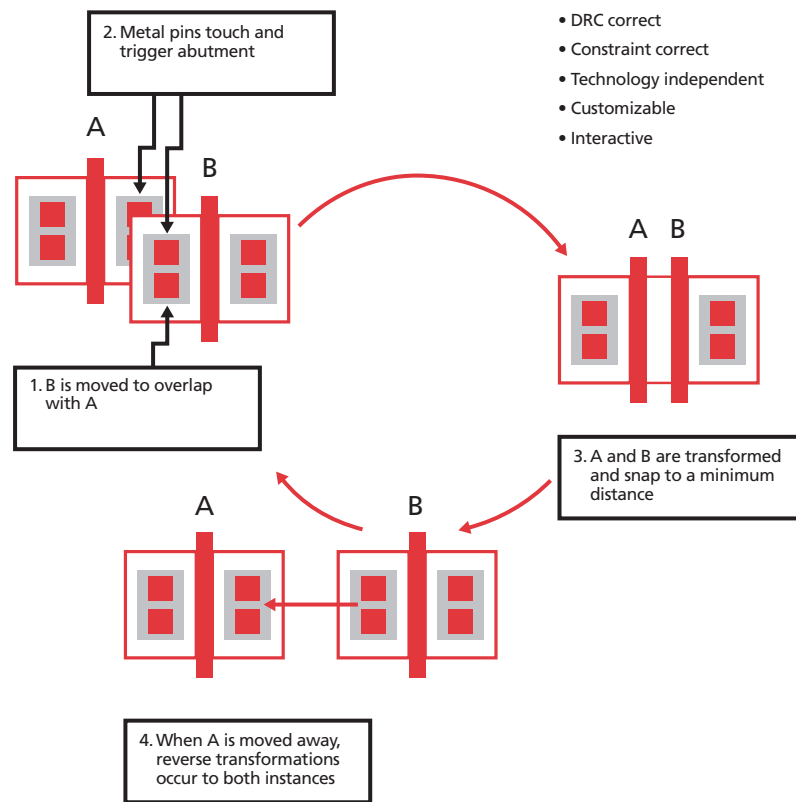

Figure 5: Virtuoso XL Layout Editor automatic abutment (auto-abutment)
- Automated device editing including abutment, pin permutation, folding, chaining, and cloning (see Figure 5)